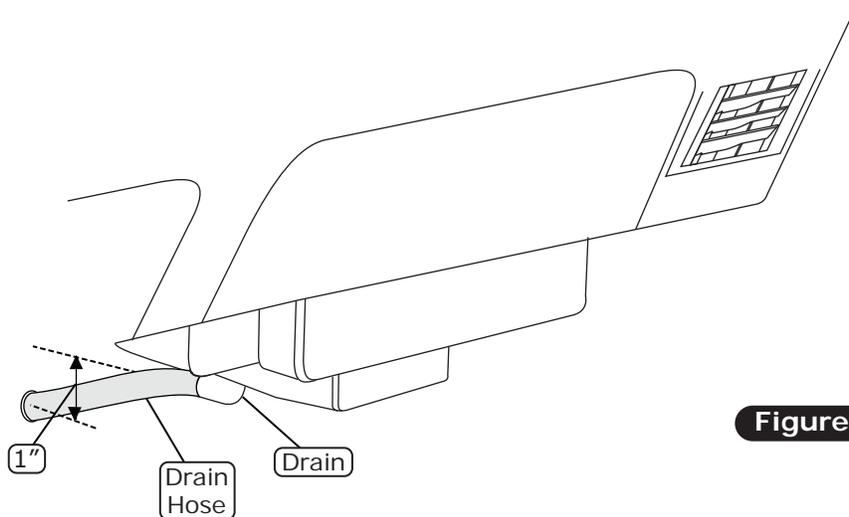

Figure 1
2. In line with the drain, lightly make a mark on the firewall. Measure one inch down and drill a 5/8" hole through the firewall (See Figure 1, below).
3. Install the drain hose onto the bottom of the evaporator module, and route it through the firewall (See Figure 1, below).